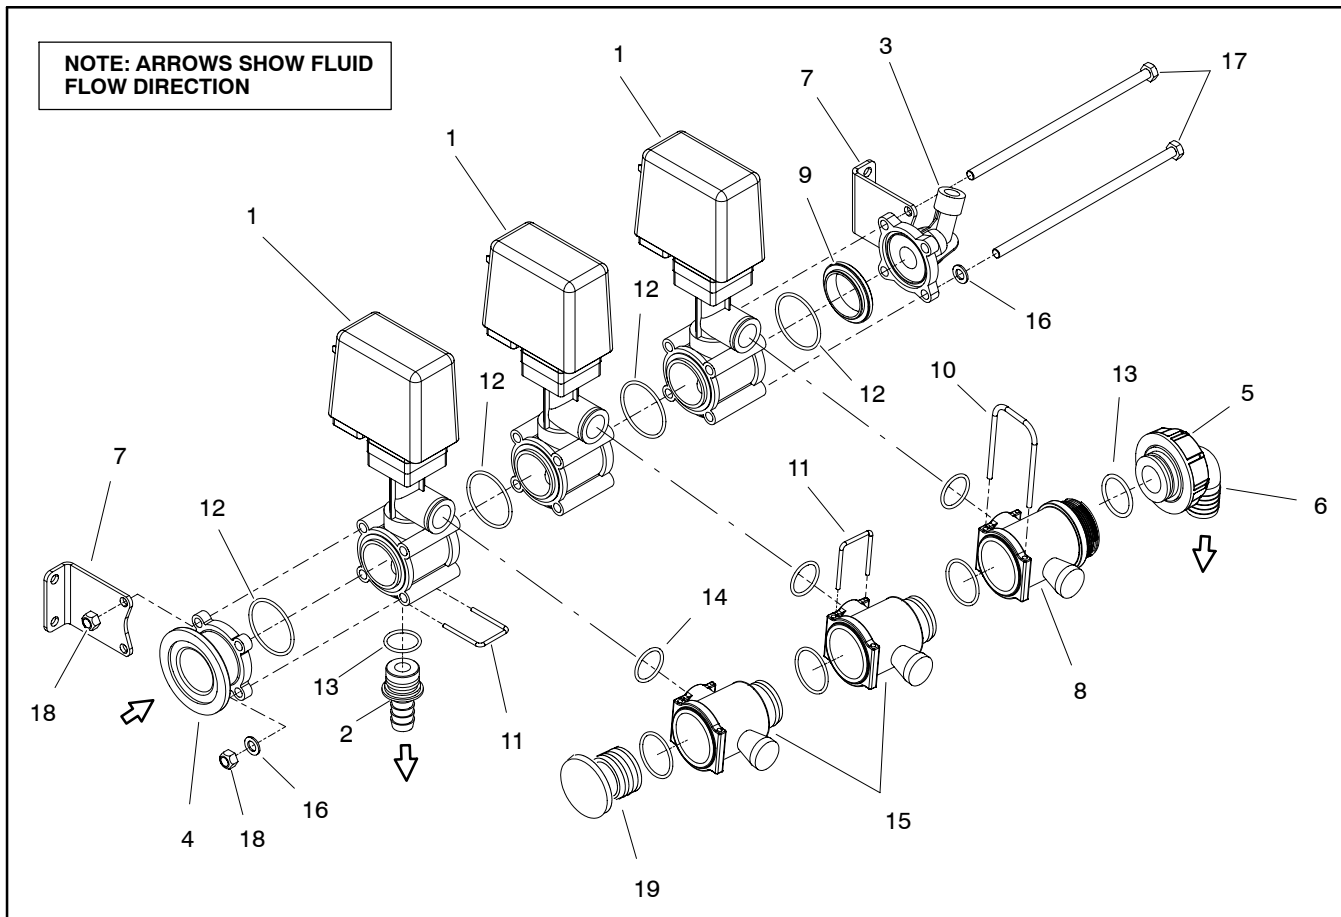

Figure 32.1
Disassembly (Fig. 32.1)
2. Disassemble boom valve manifold assembly as needed using Figure 32.1 as a guide. Discard all removed O-rings and gaskets.
Assembly (Fig. 32.1)
2. Assemble boom valve manifold assembly using Figure 32.1 as a guide.